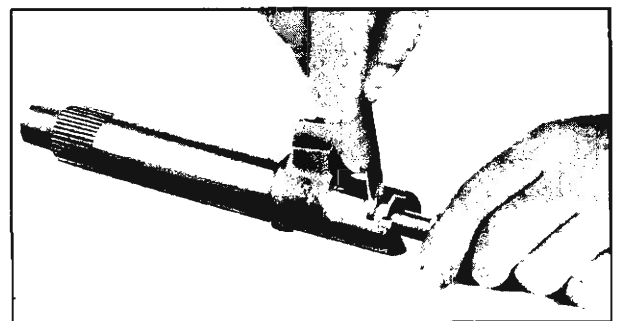

Fig. 54—Checking Sector Shaft End Clearance
3. Assemble the lash adjuster with shim in the slot in the end of sector shaft. Check the end clearance which should not be greater than .002" (fig. 54). For the purpose of adjusting this end clear-